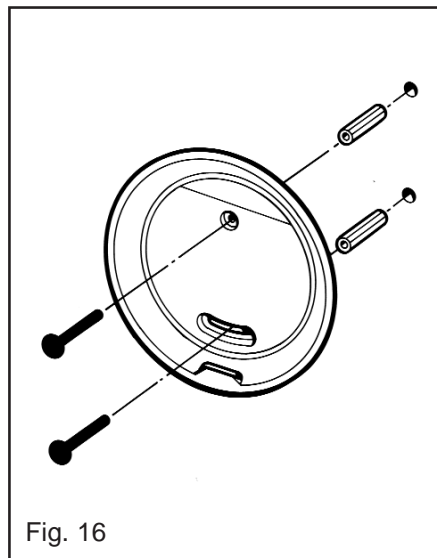

Fig. 16
- Use rawplugs and screws supplied to fix the backplate to the wall (See Fig. 16).